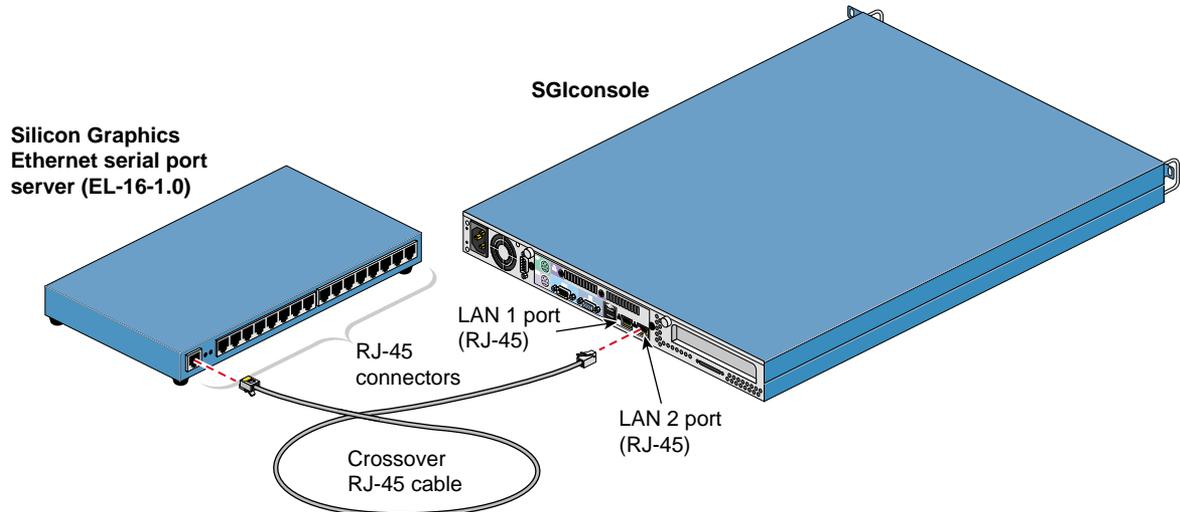

Figure 2-43 Connecting SGIconsole to the Silicon Graphics EL Serial Port Server
4. If you have not already done so, connect one end of the RJ-45 to RJ-45 crossover Ethernet cable to the **LAN 2** port RJ-45 jack on your SGIconsole, and connect the other end to the leftmost RJ-45 jack on the Silicon Graphics EL serial port server. See Figure 2-43.